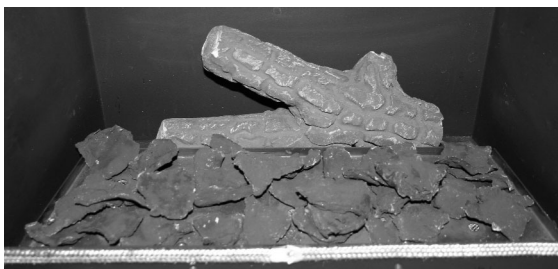

Fig. 14a
1) Position the Y shaped log across the rear of the burner, standing up against the rear of the firebox and behind the burner. See Fig. 14a.
2) Scatter the loose embers over the burner, taking care not to cover the pilot assembly. See Fig. 14a.